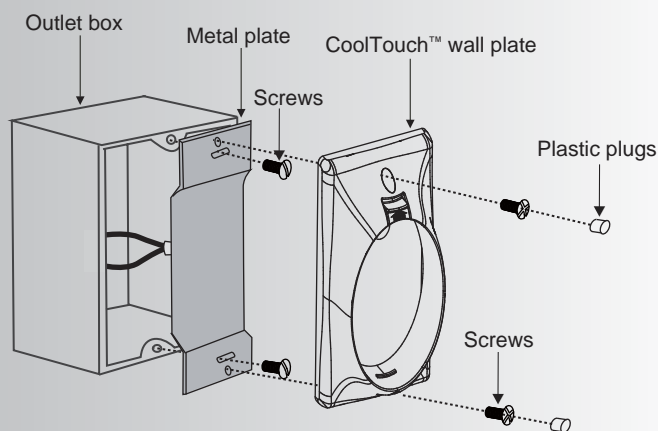

Fig. 21
Step 2. Install the metal plate and CoolTouch™ wall plate to the existing wall outlet box with 4 screws provided. Then place the two plastic plugs into the wall plate. (Fig. 21)